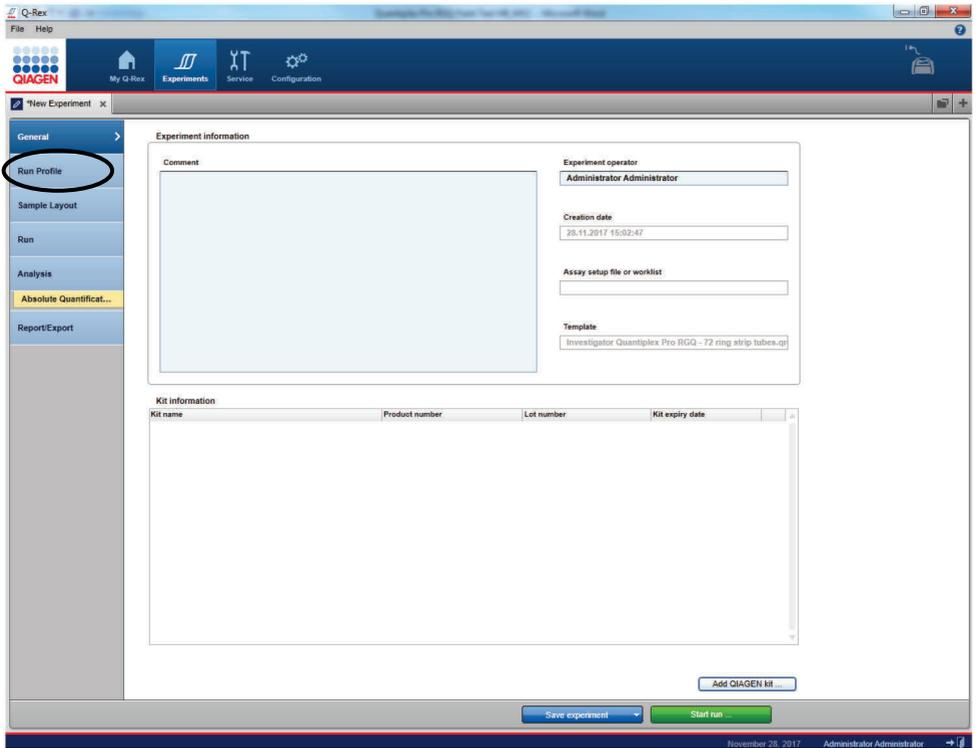

Figure 3. General settings in Q-Rex.
13. In the comments field add any additional information needed (e.g. kit lot number, kit expiry date, etc.) to be entered for the run (Figure 3).
14. Click on left side in the step marker on "Run Profile" (Figure 3).